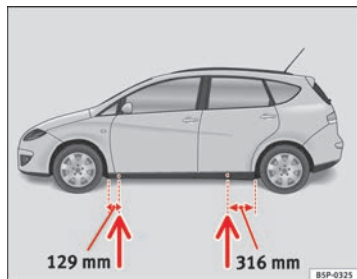

Fig. 179 Jack position points
- Locate the jacking point under the door sill closest to the wheel to be changed ⇒ fig. 179.
Recesses at the front and rear of the door sills mark the jacking points ⇒ fig. 179. A position has been made for each wheel. Do not fit the jack anywhere else.